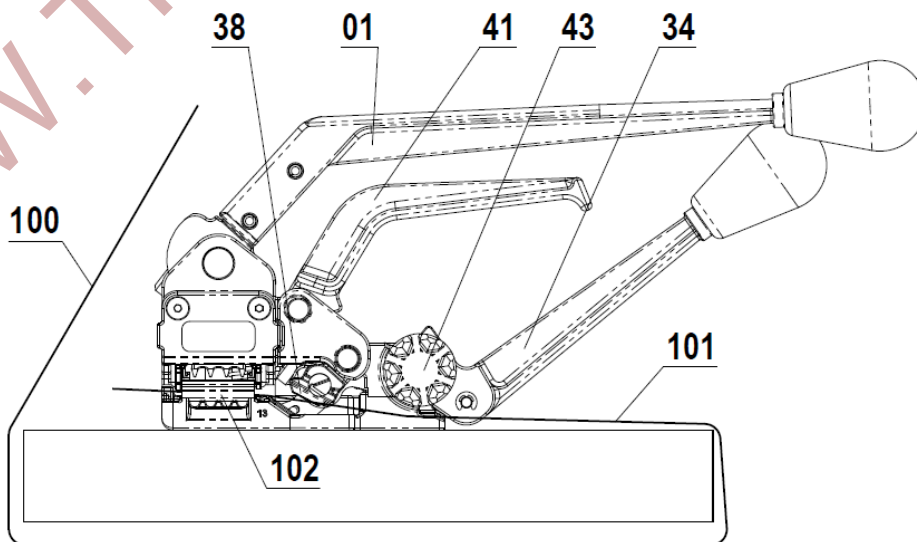

Fig. 3
2. Pull up on Handle 41 to raise Gripper Head 38. Load bottom strap 101 inside the seal 102, under Windlass 43 and under Gripper Head 38 and leave at least 1" of the strap extended out from the front of the tool as shown on Fig. 3.